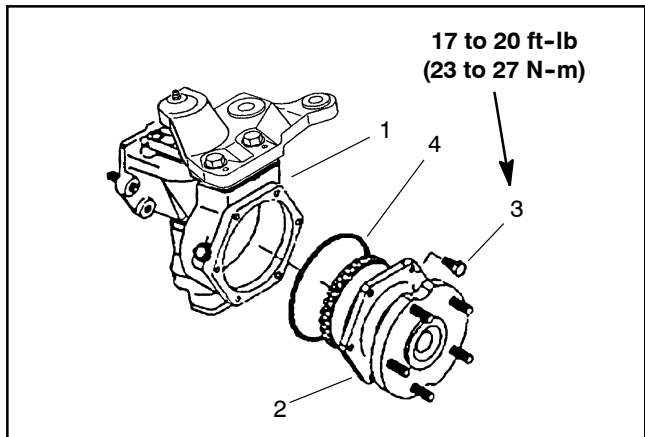

Figure 21
3. Remove the axle cover mounting screws. Remove the axle cover from the axle case as an assembly (Fig. 21).